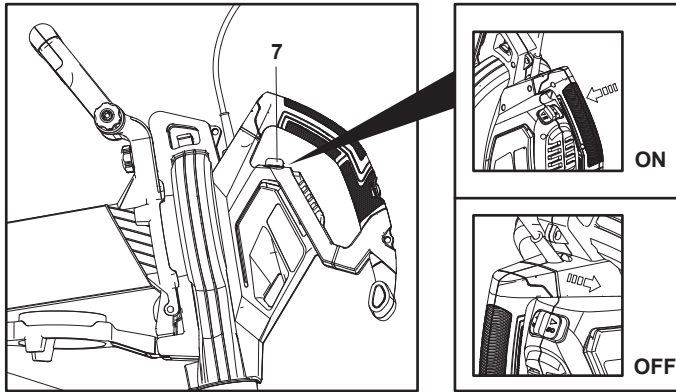

Fig. 12
1. Slide the on/off switch (7) left (from operator's perspective) to switch the product on (Fig. 12).
2. Slide the on/off switch (7) right (from operator's perspective) to switch the product off.